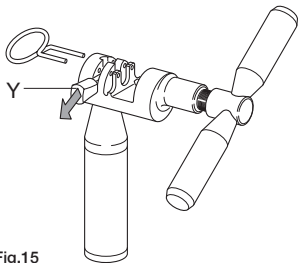

Fig.15
- Prepare the tool UT-CN400 by positioning the tongue in closure mode (Y - Fig. 15).